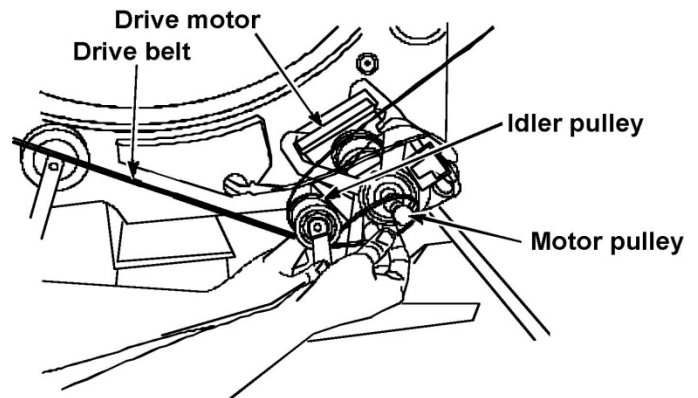

FIGURE 8
22. Place drive belt around drum. Install drum into dryer and finish installation of belt to pulley. Lift idler pulley upward, loop end of belt under idler, then slide belt onto motor pulley. See *Figure 8*.